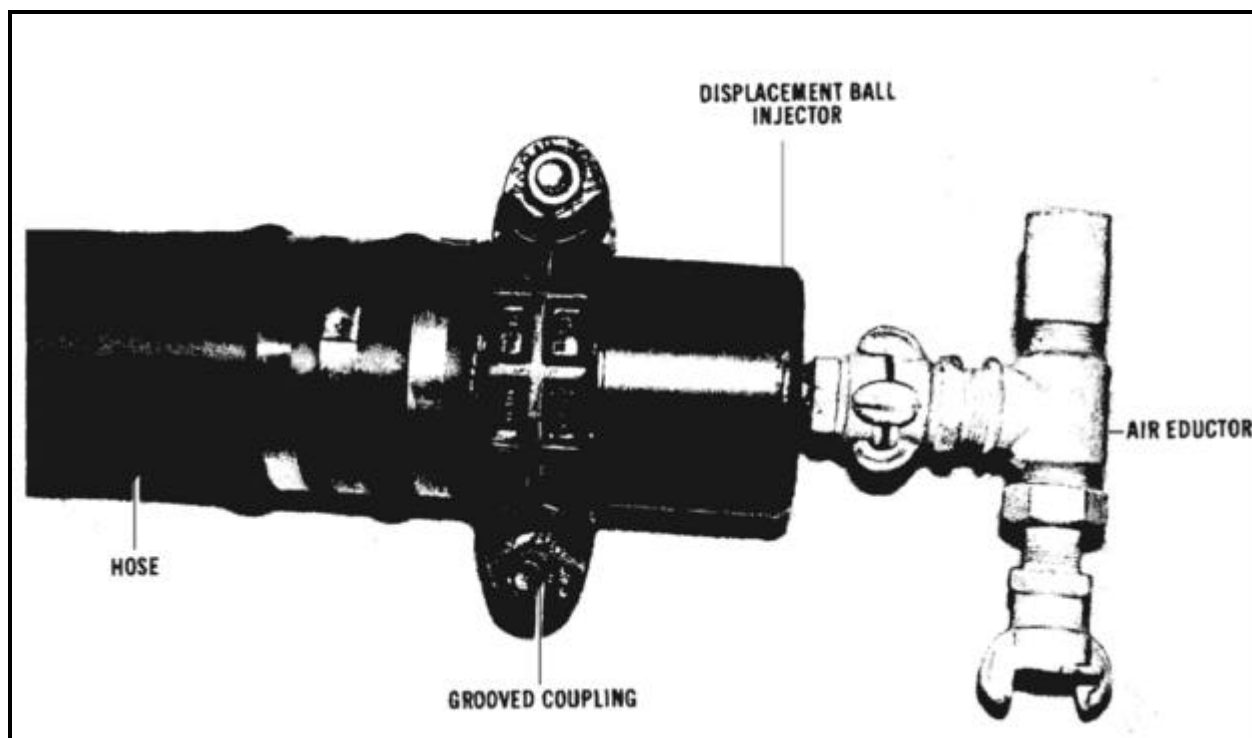

Figure 27-19. Air Eductor
- Go to the beginning of the assault hoseline and disconnect the air compressor hose from the ball injector and attach the suction end of the air eductor as shown in Figure 27-19, page 27-15.